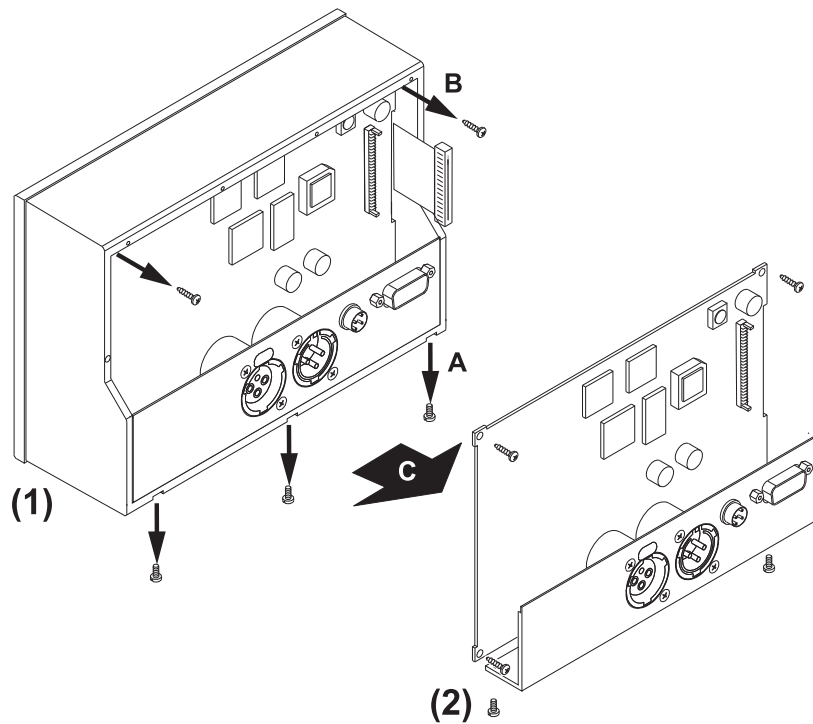

Fig. E 7-4: Unscrew and removal of connector panel and main pcb
- Remove the two screws at the bottom of the DigitalMonitor 10500X-PLUS (A) which hold the connector panel in place. Take out the three screws (B) fixing the main pcb. Carefully remove connector panel and main pcb (C) and store them at a ESD protected place. (Fig. E 7-4)